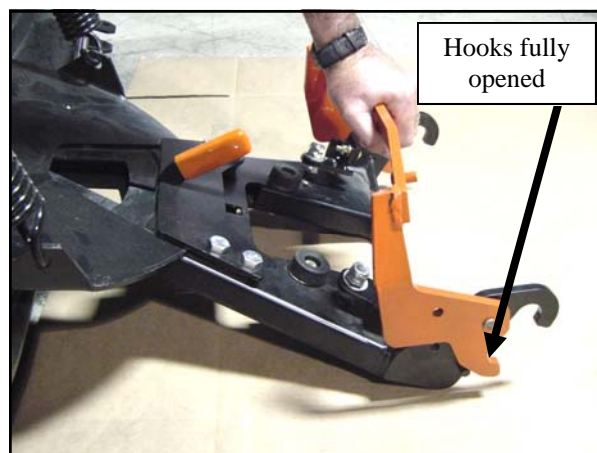

Fig. 9.3 — A-Frame Handle Fully Opened
9.3 Per figure 9.3, lift the handle until the lower mount hooks are fully opened. The plow can easily be moved into position with the A-frame handle fully opened.